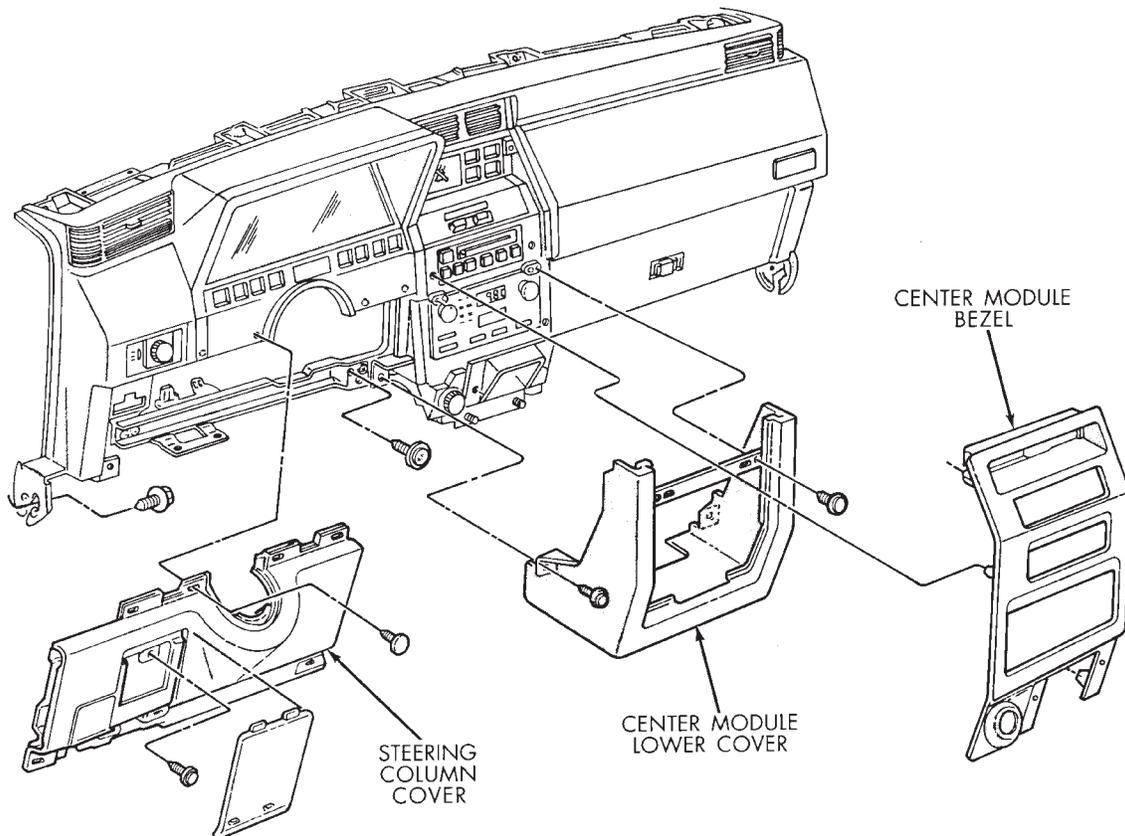

Fig. 21 Lower Instrument Panel
- (1) Disconnect park brake release rod from the park brake handle.
- (2) Remove two screws attaching hood release (Fig. 21).
- (3) Remove fuse access door and remove steering column cover attaching screw located directly above the fuse block.
- (4) Remove six screws around outside of steering column cover.
- (5) Remove steering column cover.
- (6) For installation reverse above procedures.
- (1) Open ash receiver and remove center module bezel.
- (2) Remove module cover to instrument panel retaining screws (Fig. 21).
- (3) Remove module cover from vehicle.
- (4) For installation reverse above procedures.
- (1) Open ash receiver.
- (2) Grip module bezel around outer edges and pull rearward to release six spring-type retaining clips (Fig. 21).
- (3) For installation position spring clips to instrument panel and push firmly until seated.
- (4) Close ash receiver.